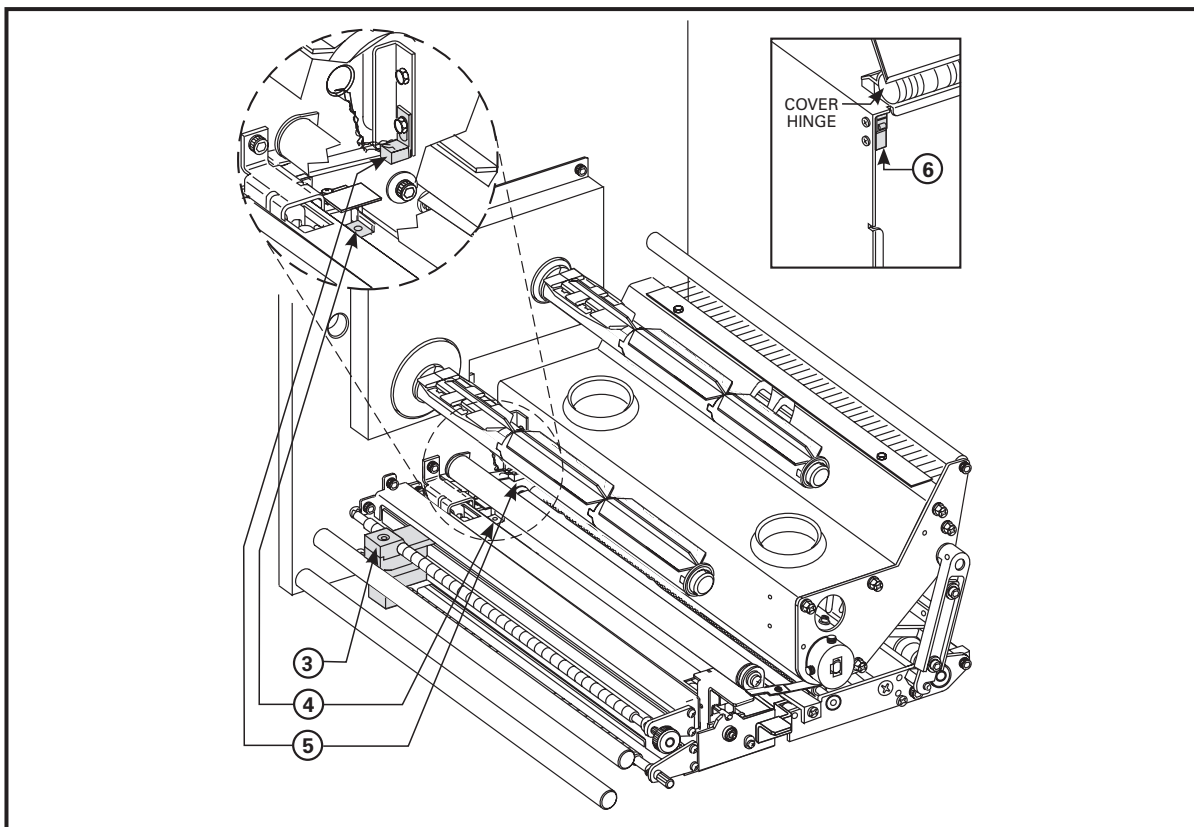

Figure 13. Sensor Locations (Right-Hand Unit Shown)
See Figures 13 and 14 for parts locations.
To ensure proper operation of the printer, all sensors should be cleaned on a regular basis. To locate the position of these sensors, refer to Figure 13.
1. Open the printhead assembly (C) by lifting the printhead lock lever (D) upward away from the locking pin (E), and remove the media and ribbon.
2. Brush, vacuum, or air blow any accumulated lint and paper dust away from the rollers. *It is good practice to clean the various media, ribbon, and door-open sensors at this time. See Figure 13.*
3. Use a cleaning swab saturated with alcohol and wipe the print elements from end to end. *The print elements form the grayish/black strip (1) just behind the chrome strip on the underside of the printhead.* Allow a few seconds for the solvent to evaporate.
4. Use a lint-free cloth moistened with alcohol to clean the platen roller (2) and other rollers. Rotate the rollers while cleaning.